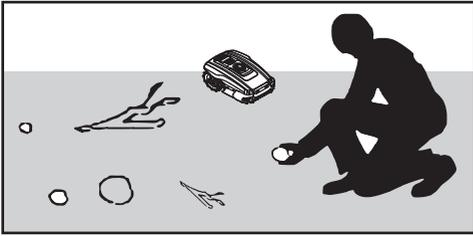

Fig. 5
- Ensure that the ground is level and that any obstacles such as small rocks and stones, any stones with a round or sloped edge, and branches are removed (Fig. 5 and 6).